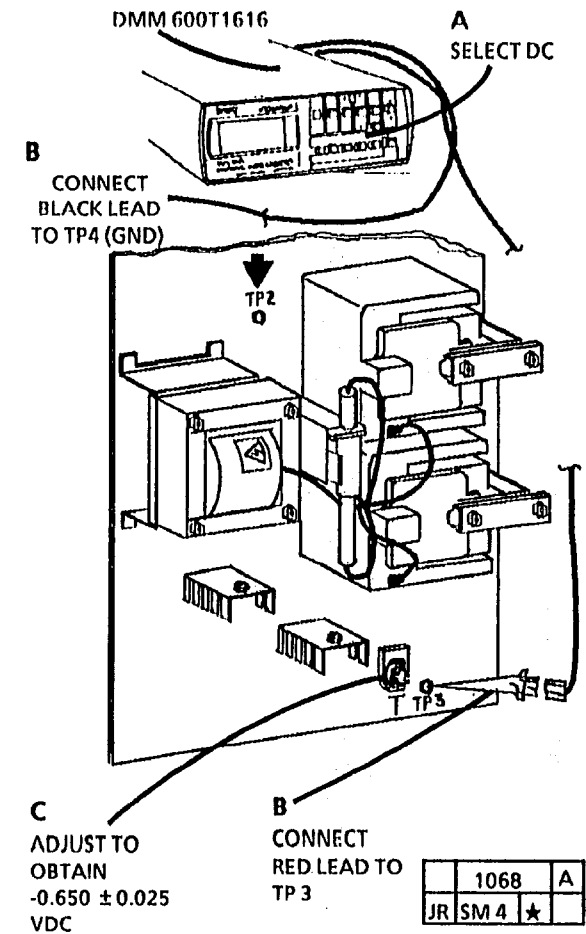

Figure 5. Adjustment of Transfer Corotron (Continued)
14. (Figure 5): Adjust transfer corotron voltage.